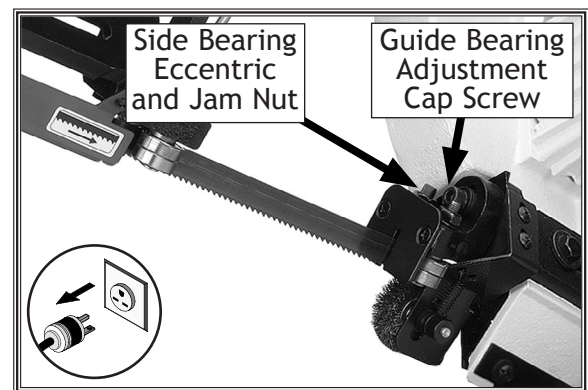

Figure 33. Blade guide location.
7. Using a 6mm wrench, rotate the side bearing eccentrics (**Figure 33**) until the bearings hold the blade perpendicular to the table surface and have a bearing-to-blade clearance of 0.000" to 0.001". The bearings must not pinch the blade.